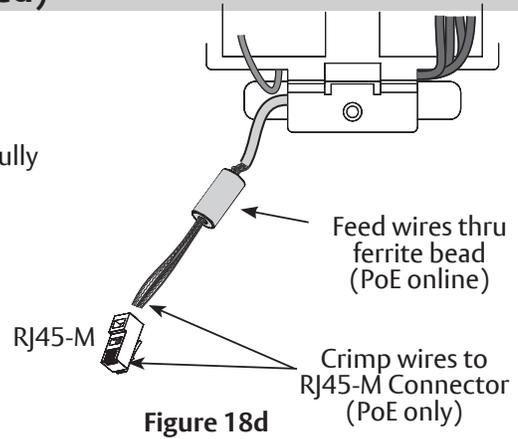

Figure 18d
2. Separate (untwist) and straighten (8) Ethernet wires before carefully feeding through ferrite bead (Figure 18d).
*For more detail, refer to section (7) 'Installation Wiring', "A - Frame Harness Installation".